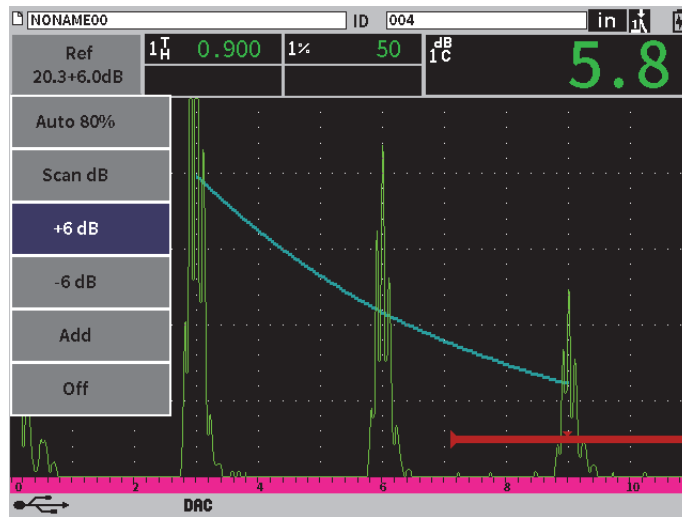

Figure 11-11 Standard DAC with 6 dB scanning gain
2. Adjust the gain in either coarse or fine increments, or use the **+6 dB** or **-6 dB** buttons to increase or decrease the scanning gain (see Figure 11-11 on page 165).